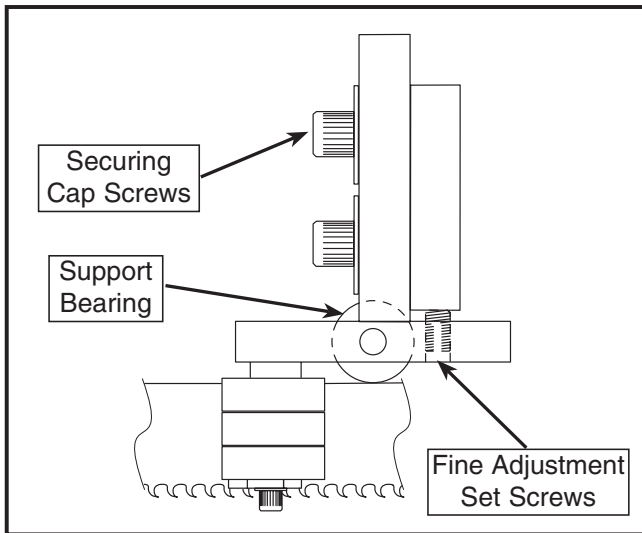

Figure 5. Support Bearing Adjustments.
- 1. Support Bearings** - The support bearings guide the back edge of the blade during the sawing operation. There is one bearing each on the left and right hand guides. **See Figure 5.** To adjust the support bearings, loosen the two cap screws until the blade guide block can be moved. Move the block so the bearing just touches the back of the blade. Tighten the cap screw closest to the blade, leave the other loose for now. Use the two fine adjustment set screws to back the bearing away from the blade until it is between .003" and .005" away from the edge of the blade. It may help to use a feeler gauge to check the gap. Be sure to adjust both the left and right hand sides.